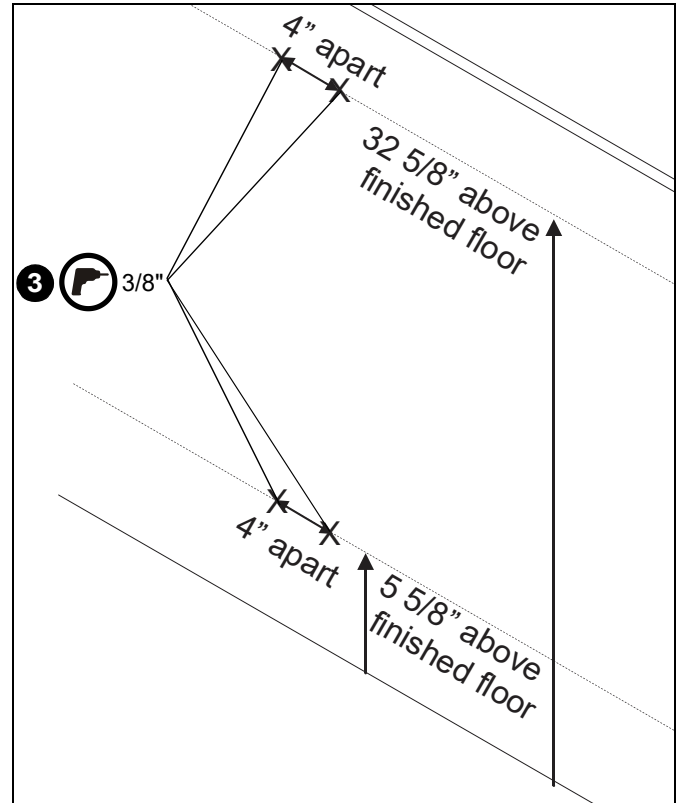

Figure 25
2. Mark hole locations at each mounting location. (See Figure 25)
3. Drill four 3/8" holes at marked hole locations. (See Figure 25)